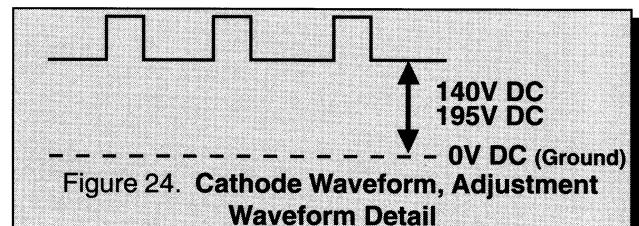

Figure 24. Cathode Waveform, Adjustment Waveform Detail
- Connect the scope to GRN Cathode (KG) on the CRT-Board.
- View scope trace at Horizontal rate and adjust the Serviceman Mode DAC (C1) level until a scanning period of **140V** for 13" models and **195V** for 27" models above DC ground is measured, as indicated in Fig. 24.
- Connect the scope to the RED Cathode (KR).
- View the scope trace and adjust the Serviceman Mode DAC (C0) for the scanning period to be **140V** for 13" models and **195V** for 27" models above DC ground. (See Fig. 24)
- Connect the scope to the BLU Cathode (KB).
- View the scope trace and adjust the Serviceman Mode DAC (C2) for the scanning period to be **140V** for 13" models and **195V** for 27" models above DC ground. (See Fig. 24)